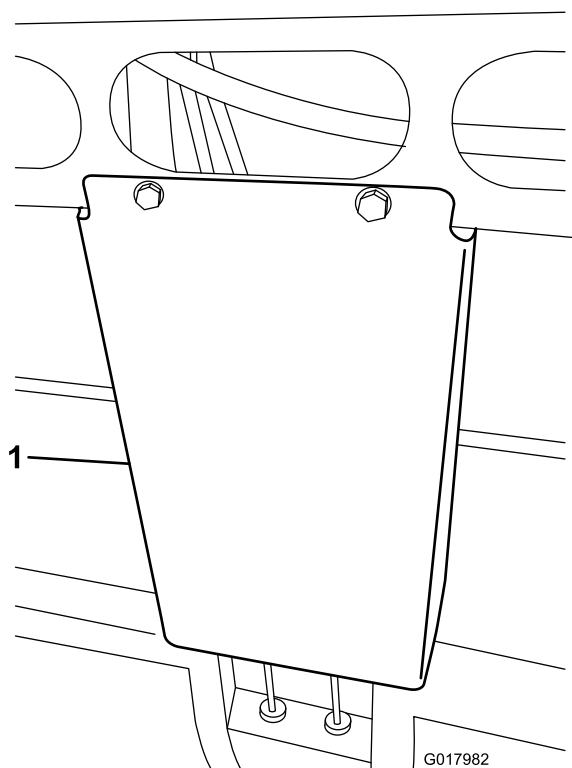

Figure 1
5. Remove the shield covering the hydraulic lines under the front center of the vehicle (Figure 1).